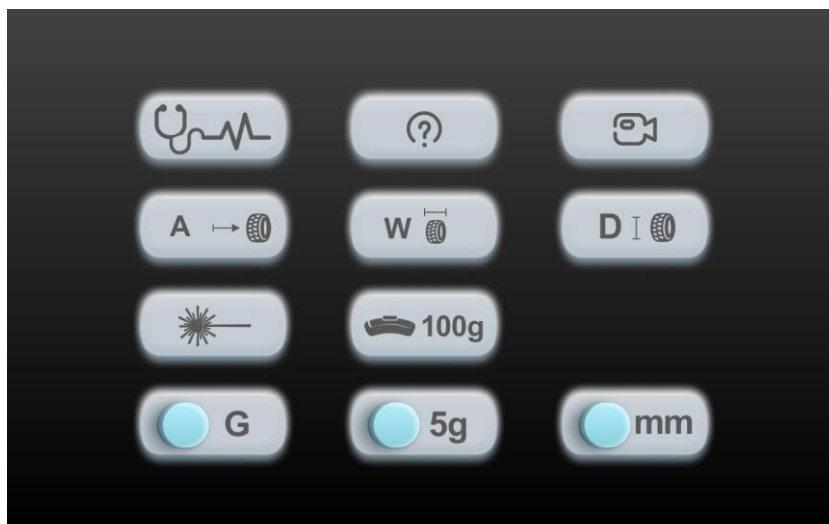

Fig. 13
- There are 11 main menus (Fig. 13). Use , , and  keys for selection. Press  to exit.